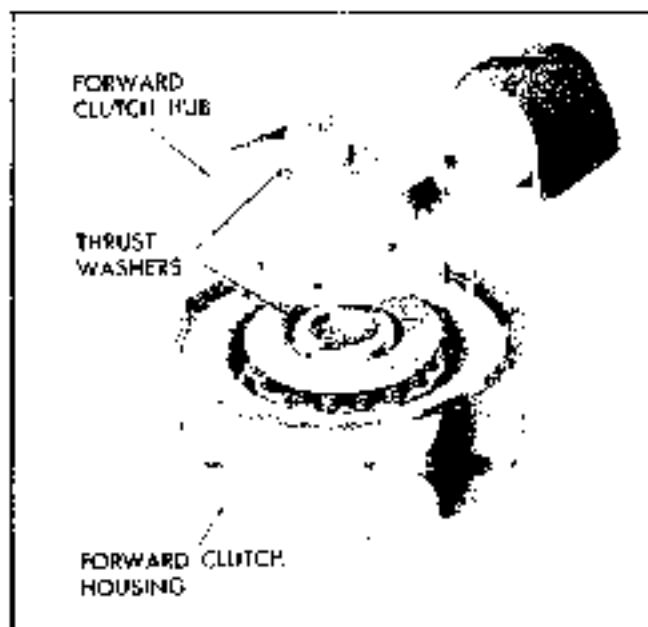

Fig. 7E-79 Removing Forward Clutch Hub and Thrust Washers
5. If necessary, place forward clutch and turbine shaft in arbor press and remove turbine shaft (Fig. 7E-80).